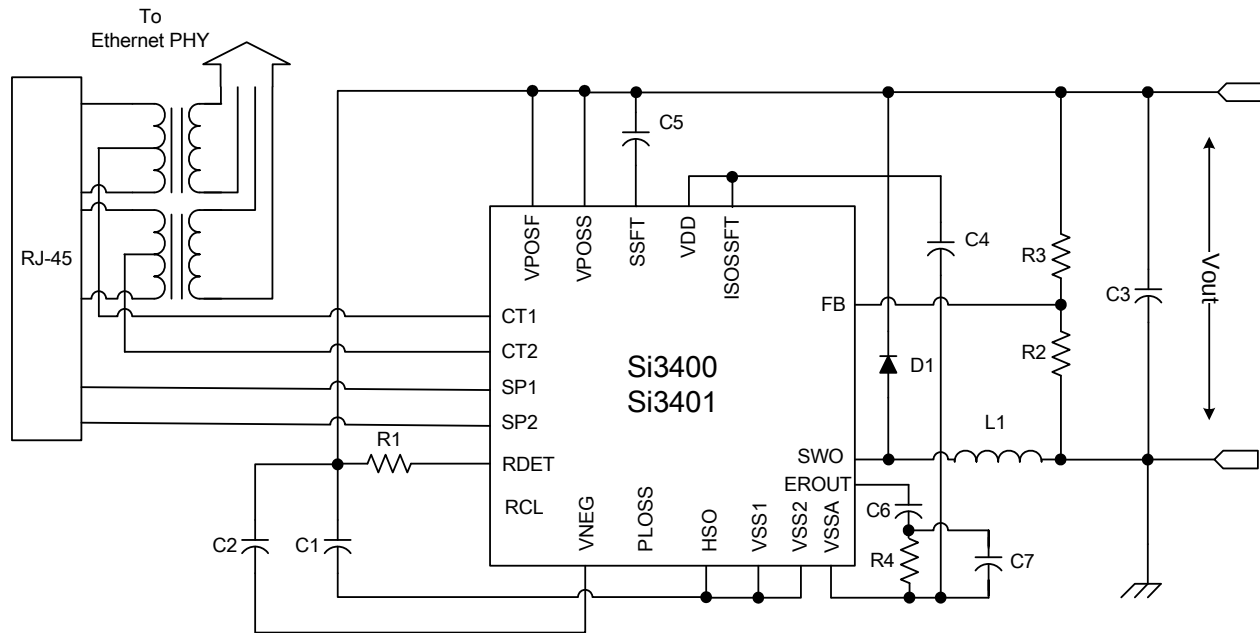
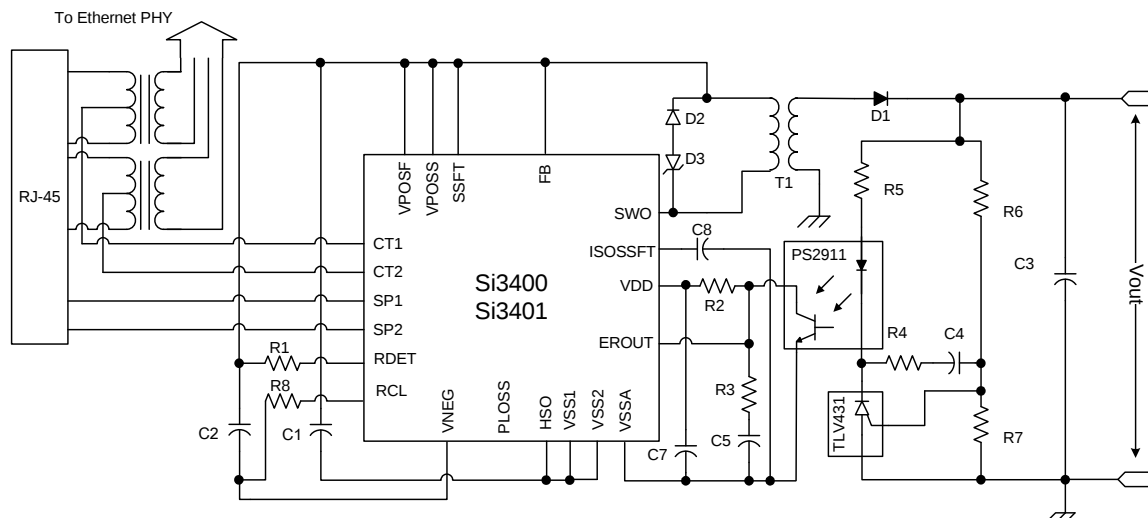

Figure 1. Simplified Schematic—Class 0 with Non-Isolated 5 V Output*
Figure 2. Simplified Schematic—Class 1 with Isolated 5.0 V Output*
6. Applies to non-isolated applications only (VOUT on schematic in Figure 1).
Notes: 1. Transient surge defined in IEC60060 as a 1000 V impulse of either polarity applied to CT1–CT2 or SP1–SP2. The shape of the impulse shall have a 300 ns full rise time and a 50 μs half fall time with 201 Ω source impedance. 2. The classification currents are guaranteed only when recommended RCLASS resistors are used, as specified in Table 11. 3. IPORT includes full operating current of switching regulator controller. 4. The PD interface includes dual-level input current limit. At turn-on, before the HSO load capacitor is charged, the current limit is set at the inrush level. After the capacitor has been charged within $\sim 1.25\text{ V}$ of VNEG, the operating current limit is engaged. This higher current limit remains active until the UVLO lower limit has been tripped or until the hotswap switch is sufficiently current-limited to cause a foldback of the HSO voltage. 5. See “AN296: Using the Si3400/1/2 PoE PD Controllers in Isolated and Non-Isolated Designs” for more information. 6. Applies to non-isolated applications only (VOUT on schematic in Figure 1).
The application determines the converter topology. An isolated application will require a flyback transformer-based switching topology while a non-isolated application can use an inductor-based buck converter topology. In the isolated case, dc isolation is achieved through a transformer in the forward path and a voltage reference plus opto-isolator in the feedback path. The application circuit shown in Figure 2 is an example of such a topology. The non-isolated application in Figure 1 makes use of a single inductor as the energy conversion element, and the feedback signal is directly supplied into the internal error amplifier. As can be seen from the application circuits, the isolated topology has an increased number of components, which increases the bill of materials (BOM) and system footprint.